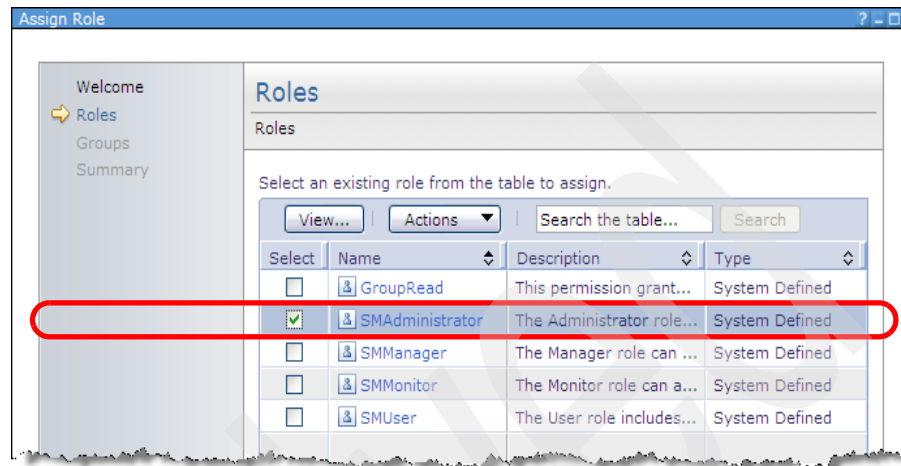

Figure 4-10 Assigning specific roles
7. The Assign Roles wizard starts. Click **Next** to pass the Welcome panel. In the Roles window, shown in Figure 4-10, you can select the role or roles as appropriate. The *GroupRead* role is a default.